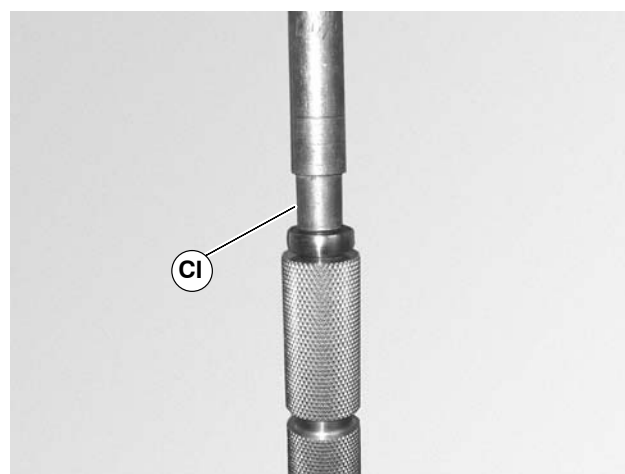

Figure 51
2. Use a bearing installation tool, (CI of Figure 51), part number 450292, or equivalent and press bearings onto the conveyor pulley and drive pulley.